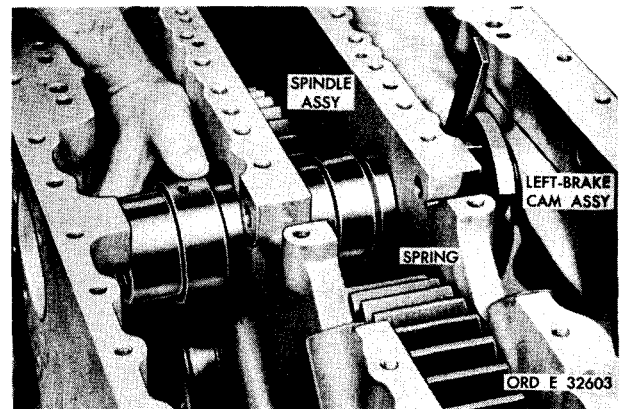

Figure 184. Removing spindle assembly, left-brake cam assembly and spring
ai. Remove the spindle assembly, left-brake cam assembly and spring from the transmission rear housing (fig. 184). Remove the spring from the brake cam.
q. Install the left-brake cam assembly, spring and spindle assembly in rear housing. Install the spring on the brake cam and position these parts in the housing, then install the spindle assembly as shown (fig. 184).